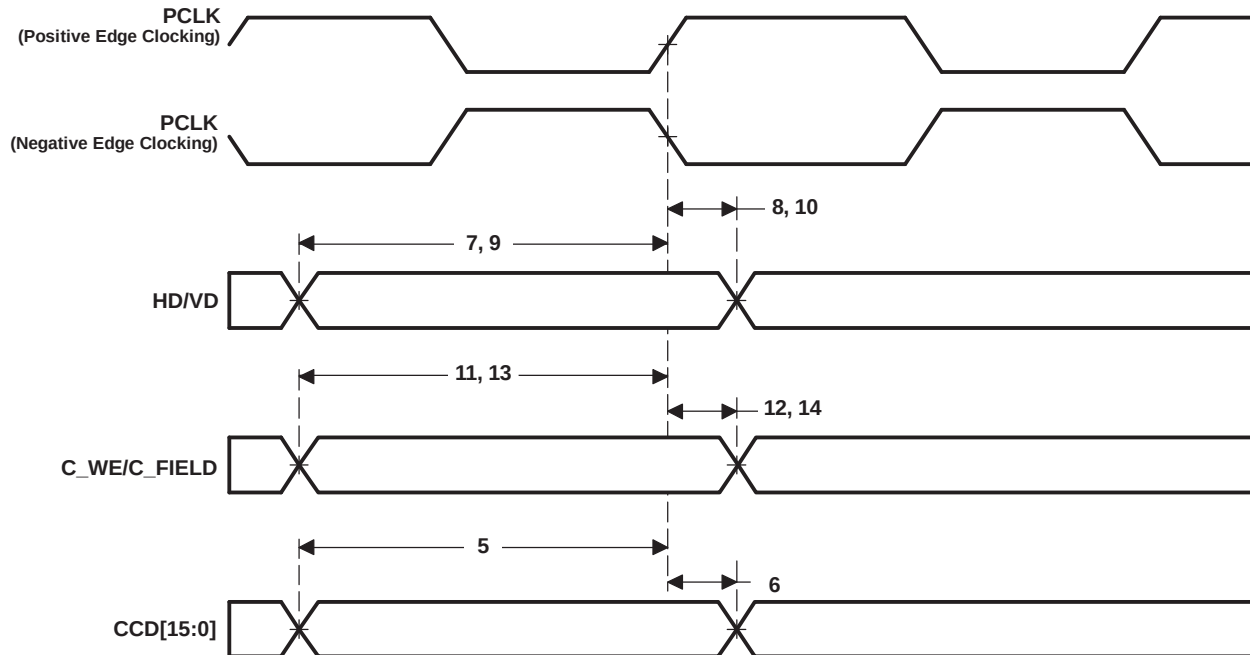

**Figure 6-47. VPFE (CCD) Slave Mode Input Data Timing**
**Table 6-54. Timing Requirements for VPFE (CCD) Slave Mode(1) (see Figure 6-47)**